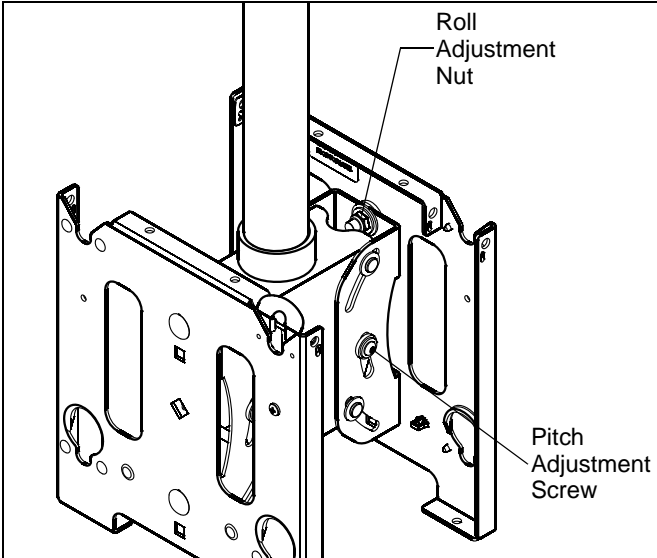

Figure 6
1. Using a 9/16" wrench, loosen the Nylock roll adjustment nut on back of mounting plate. (See Figure 6)
2. Using the 5/32" hex head wrench (B), tighten the pitch adjustment screw to hold mount in position. (See Figure 6)